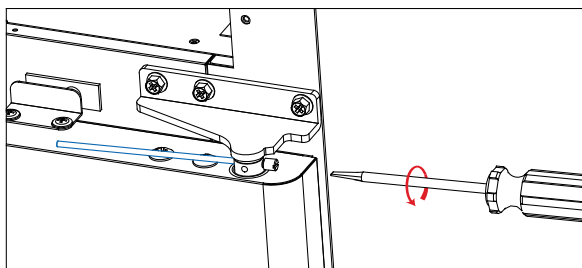

Fig 8-50
5. Turn and drive the tension pin into the next step hole. (Fig 8-50)